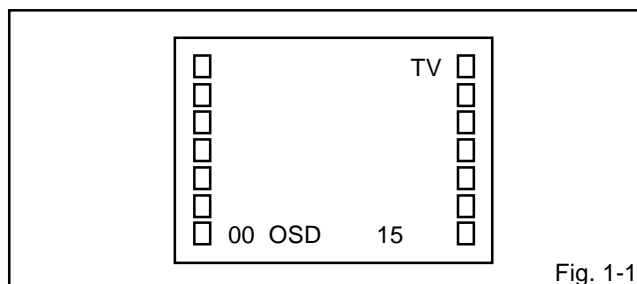

Fig. 1-1
Press the VOL. DOWN button on the set and the Channel button (9) on the remote control for more than 1 second to appear the adjustment mode on the screen as shown in Fig. 1-1.
3. Activate the adjustment mode display of Fig. 1-1 and press the channel button (01) on the remote control to select "CUT OFF".
4. Activate the adjustment mode display of Fig. 1-1 and press the channel button (10) on the remote control to select "R. BIAS".
2. Activate the adjustment mode display of Fig. 1-1 and press the channel button (05) on the remote control to select "H.PHAS".
3. Activate the adjustment mode display of Fig. 1-1 and press the channel button (06) on the remote control to select "V.SIZE".
2. Activate the adjustment mode display of **Fig. 1-1** and press the channel button **(07)** on the remote control to select "V.SFT".
1. Activate the adjustment mode display of **Fig. 1-1**.
1. Activate the adjustment mode display of **Fig. 1-1** and press the channel button **(13)** on the remote control to select "BRI.CENT".
2. Activate the adjustment mode display of **Fig. 1-1** and press the channel button **(22)** on the remote control to select "TINT".
1. Activate the adjustment mode display of **Fig. 1-1** and press the channel button **(17)** on the remote control to select "CONT.MAX".